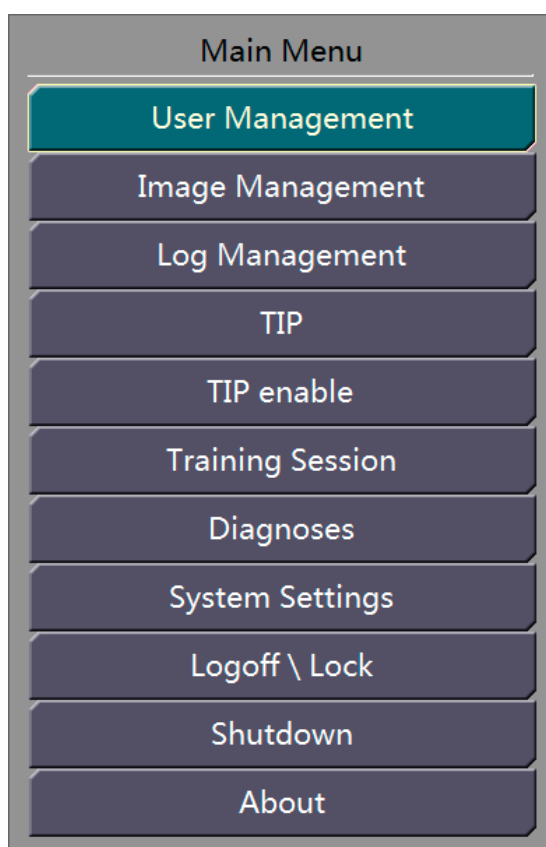

Figure 16-15 Main Interface after TIP is Enabled
Step 2 After the software restarts, the main interface of the system is as shown in Figure 16-15. You can click "Enable TIP" to enable TIP.